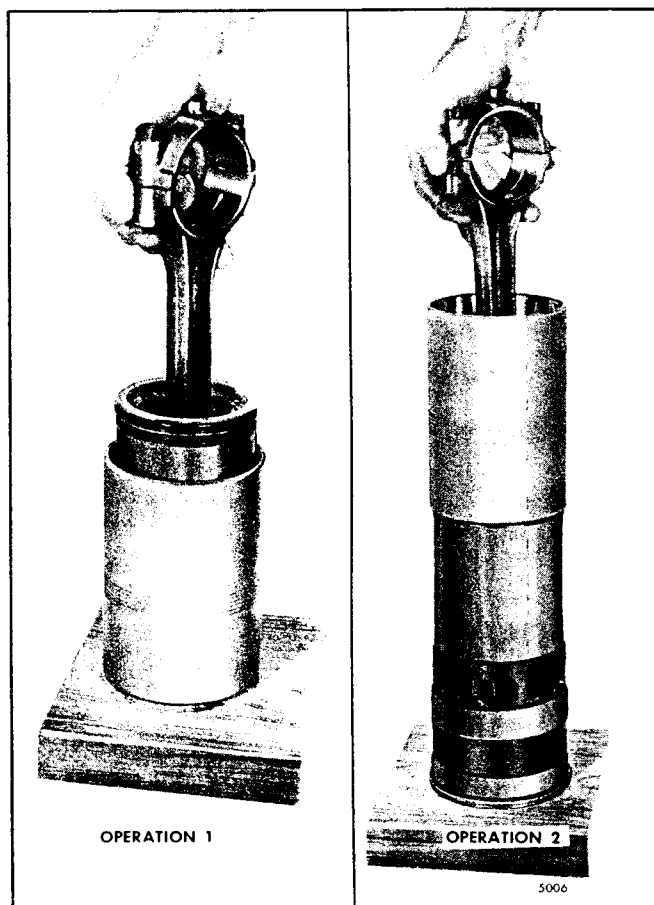

Fig. 6 - Installing Piston and Connecting Rod Assembly in Ring Compressor and Cylinder Liner
4. Start the top of the piston straight into the ring compressor; then, push the piston down until it contacts the wood block (see Operation 1, Fig. 6).
6. Place the ring compressor and the piston and rod assembly on the liner, so the numbers on the rod and cap are aligned with the matchmark on the liner (see Operation 2, Fig. 6).